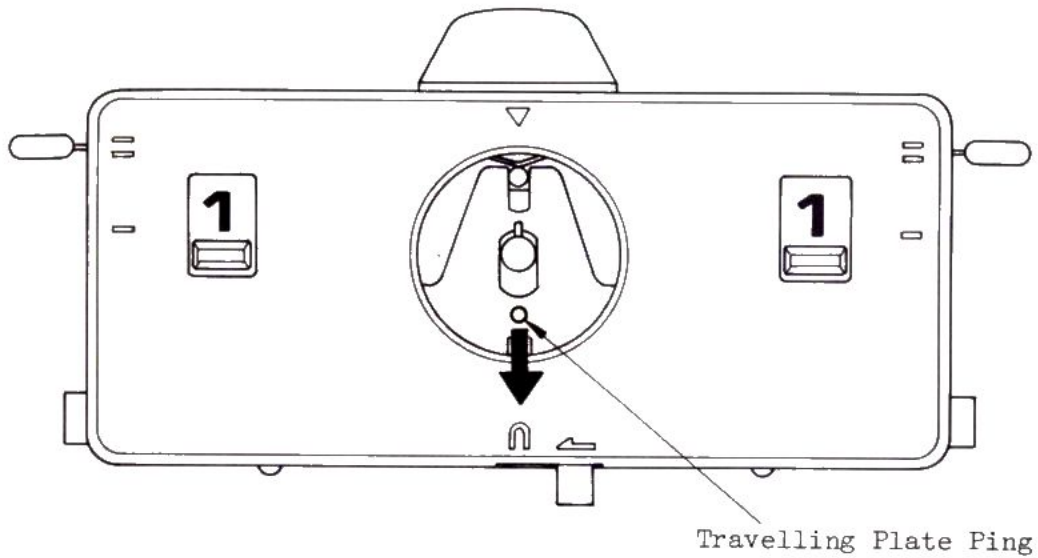

Fig. 10
2. As shown in the below Fig. 10, move the Travelling Plate Pin forward.